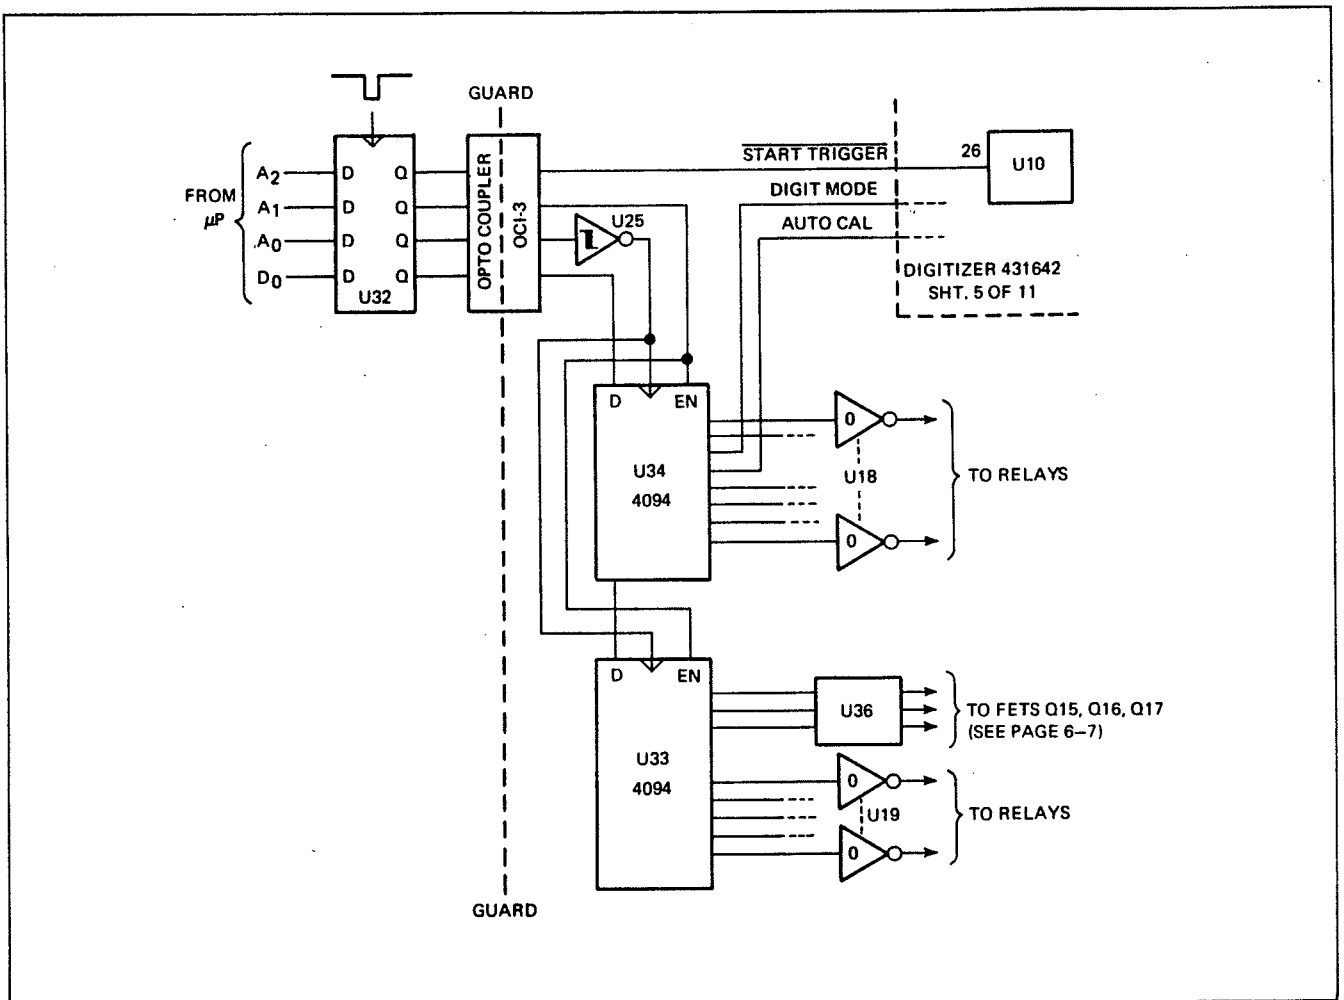

Figure 4.15 - Analog Control Registers
4.5.8.2 The analog control system is comprised of a 4 bit latch U32, two shift registers U33 and U34, two relay drivers U18 and U19, relays K1 through K13, Schmitt trigger U25 and fet driver U36, as shown in Figure 4.15.